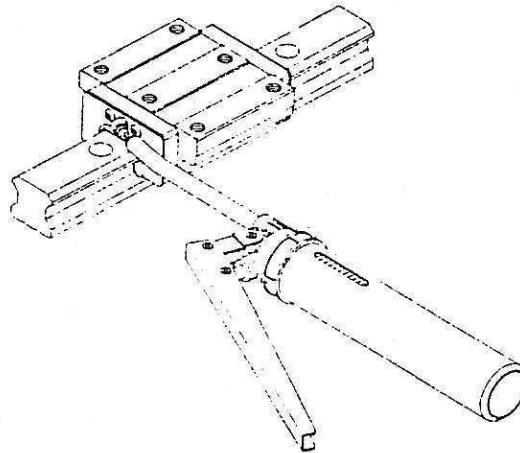

FIG.1
- 2- ALL THK LINEAR BEARING BLOCKS MUST BE FILLED WITH LITHIUM SOAP BASED GREASE NO.2 . REFILL GREASE THROUGH THE GREASE FITTING MAKING USE OF GREASE PUMP. THE GREASE LUBRICATION INTERVAL DEPENDS ON THE CONDITIONS OF USE. AS A GUIDELINE FOR GENERAL OPERATIONS, LUBRICATE THK BEARINGS EVERY TWO MONTHS. SEE FIG.1